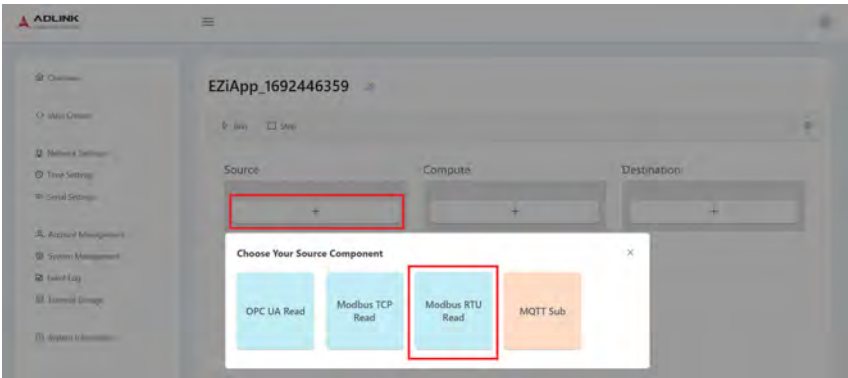
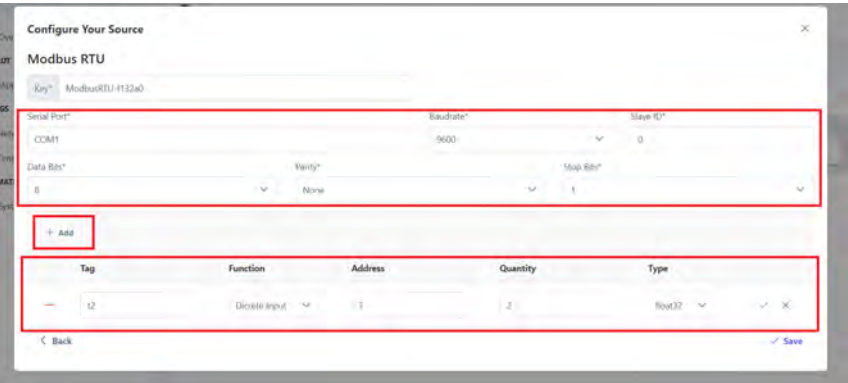

Figure 3-7: Create Modbus RTU
Figure 3-8: Configure Modbus RTU
2. **Modbus RTU Master:** Use EGiFlow iApp's setup to create and configure the Modbus RTU Master functionality. Determine the serial parameters required for communication, such as baud rate, parity, data bits, and stop bits. EGiFlow iApp provides an interface to define the data registers to be read from the Modbus slave. (See Figure 3-7 and Figure 3-8)
registers to be read from the Modbus slave. (See Figure 3-7 and Figure 3-8)
1. **Modbus RTU Master:** Use EGiFlow iApp's setup to create and configure the Modbus RTU Master functionality. Determine the serial parameters required for communication, such as baud rate, parity, data bits, and stop bits. EGiFlow iApp provides an interface to define the data registers to be read from the Modbus slave. (See Figure 3-7 and Figure 3-8)